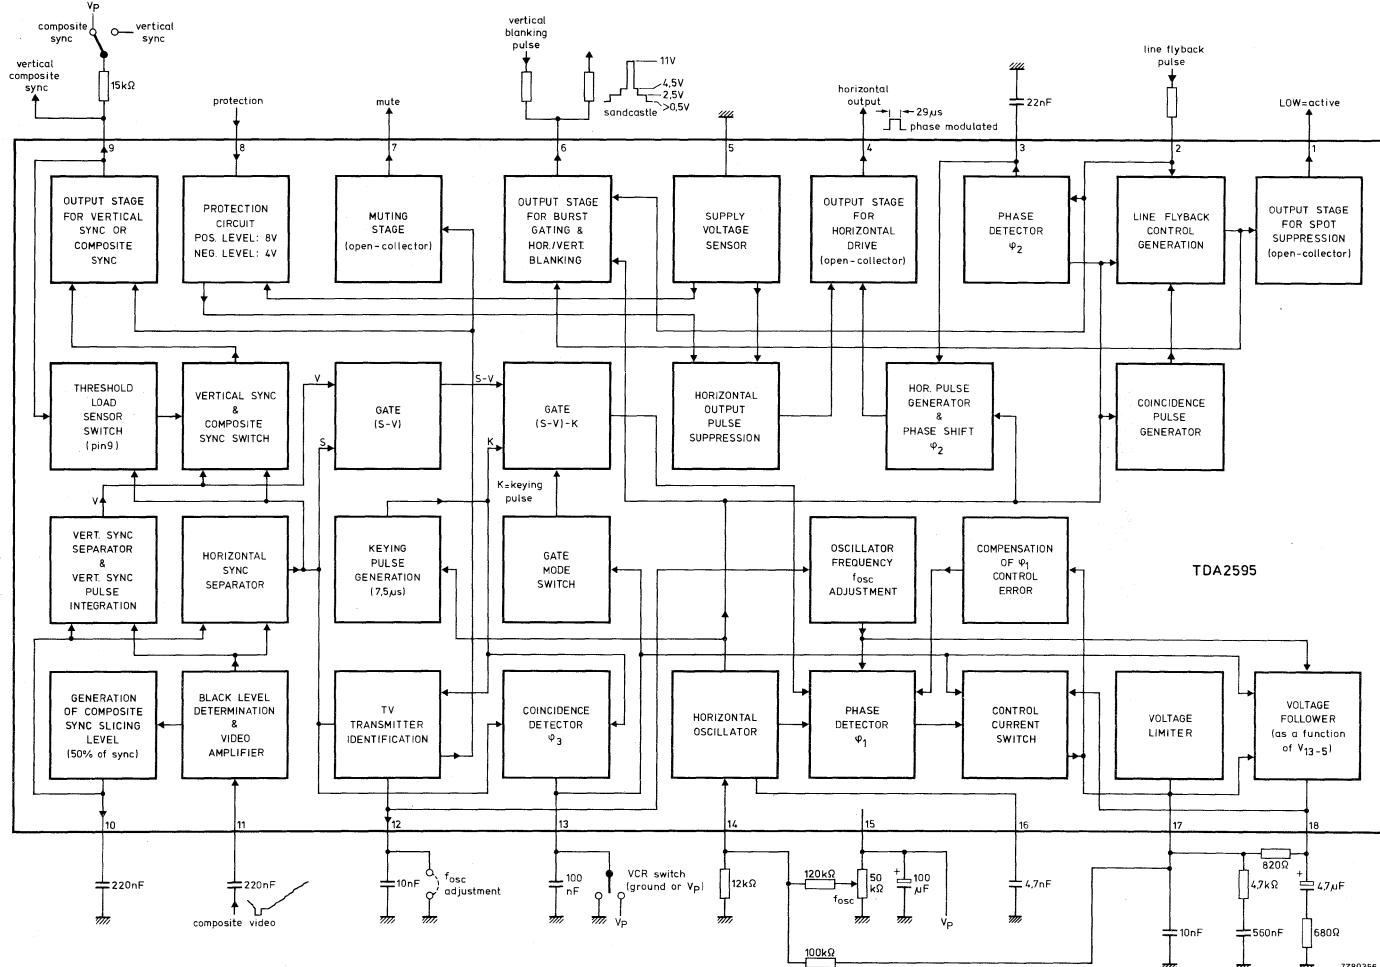

Fig. 1 Block diagram.
**CHARACTERISTICS**Vp = 12 V; Tamb = 25 °C; measured in Fig. 1; unless otherwise specified